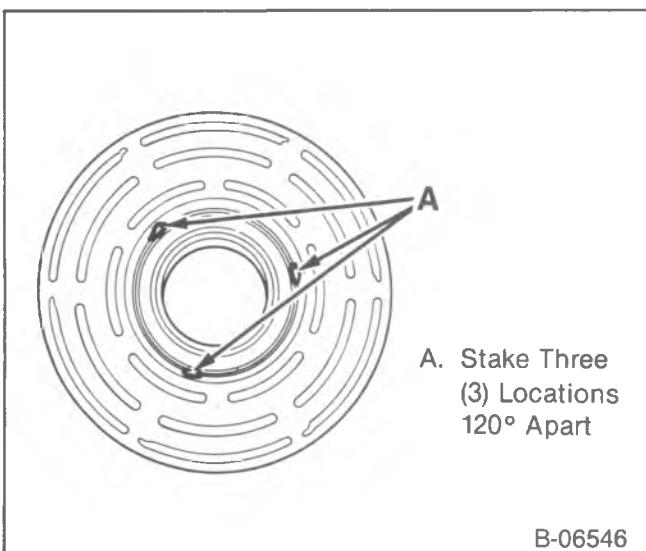
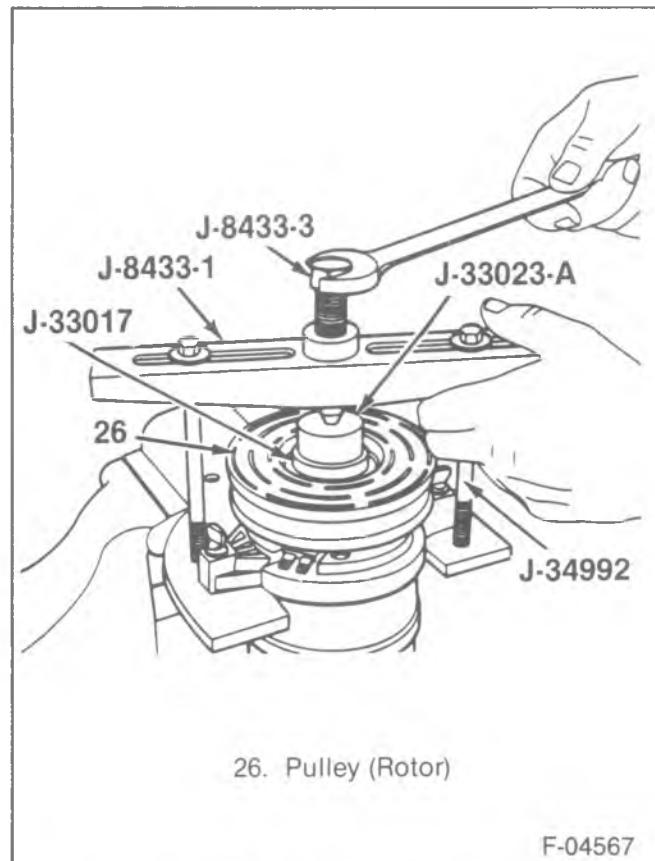

Figure 15—Bearing Stake Locations
Figure 16—Installing the Pulley Bearing Assembly
- Stake 3 places 120 degrees apart (figure 15).
3. Pulley (26) on the front head.
- Position J-33017 and J-33023 over the inner race of the bearing (figure 16).
- Position J-8433-1 on J-33023 and assemble the through bolts and washers through the puller bar slots and thread them into J-33026 (figure 16).